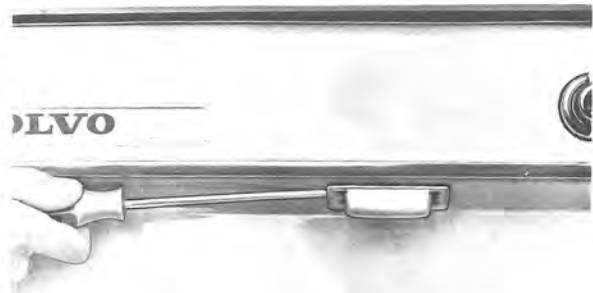

Fig. 3-80. Removing license plate light
1. Remove the license plate light with the help of a crosshead screwdriver according to Fig. 3-80.